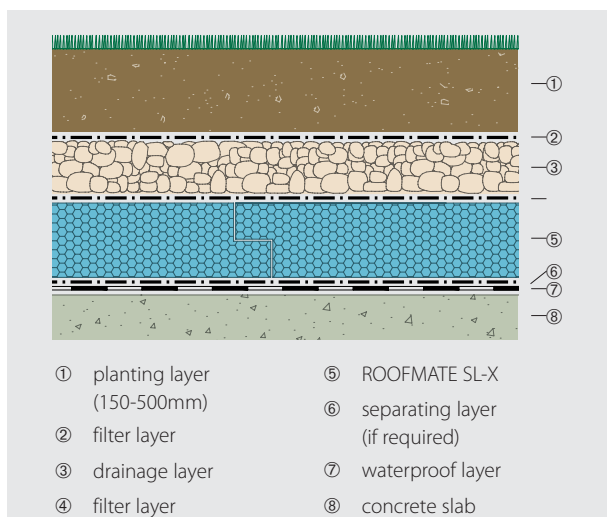

Figure 25 >> Intensive green roof
- »» **intensive:** using a thick plant-bearing layer (150-500mm) and traditional garden plants including lawn-grass, shrubs and even small trees. Intensive green roofs require full access for maintenance, are suitable for roof gardens and are often combined with paved areas and terraces to provide amenity areas. The type of planting chosen will determine the roof construction above the filter layer: extensive planting requires a planting layer which will retain some water whilst intensive planting requires a thicker, soil-based plant-bearing layer and a drainage layer (Figure 25).